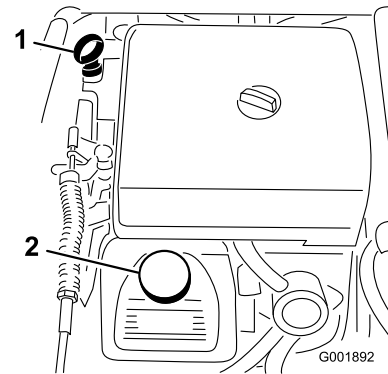

Figure 50
2. Remove the dipstick and wipe it with a clean rag (Figure 50). Insert the dipstick into the tube and make sure it is seated fully. Remove the dipstick and check the oil level.
3. If the oil level is low, remove the filler cap from the valve cover (Figure 50) and pour oil into the opening until the oil level is up to the Full mark on the dipstick. Add the oil slowly and check the level often during this process. Do not overfill.
8. Slowly pour approximately 80% of the specified amount of oil into the oil filler tube (Figure 50).